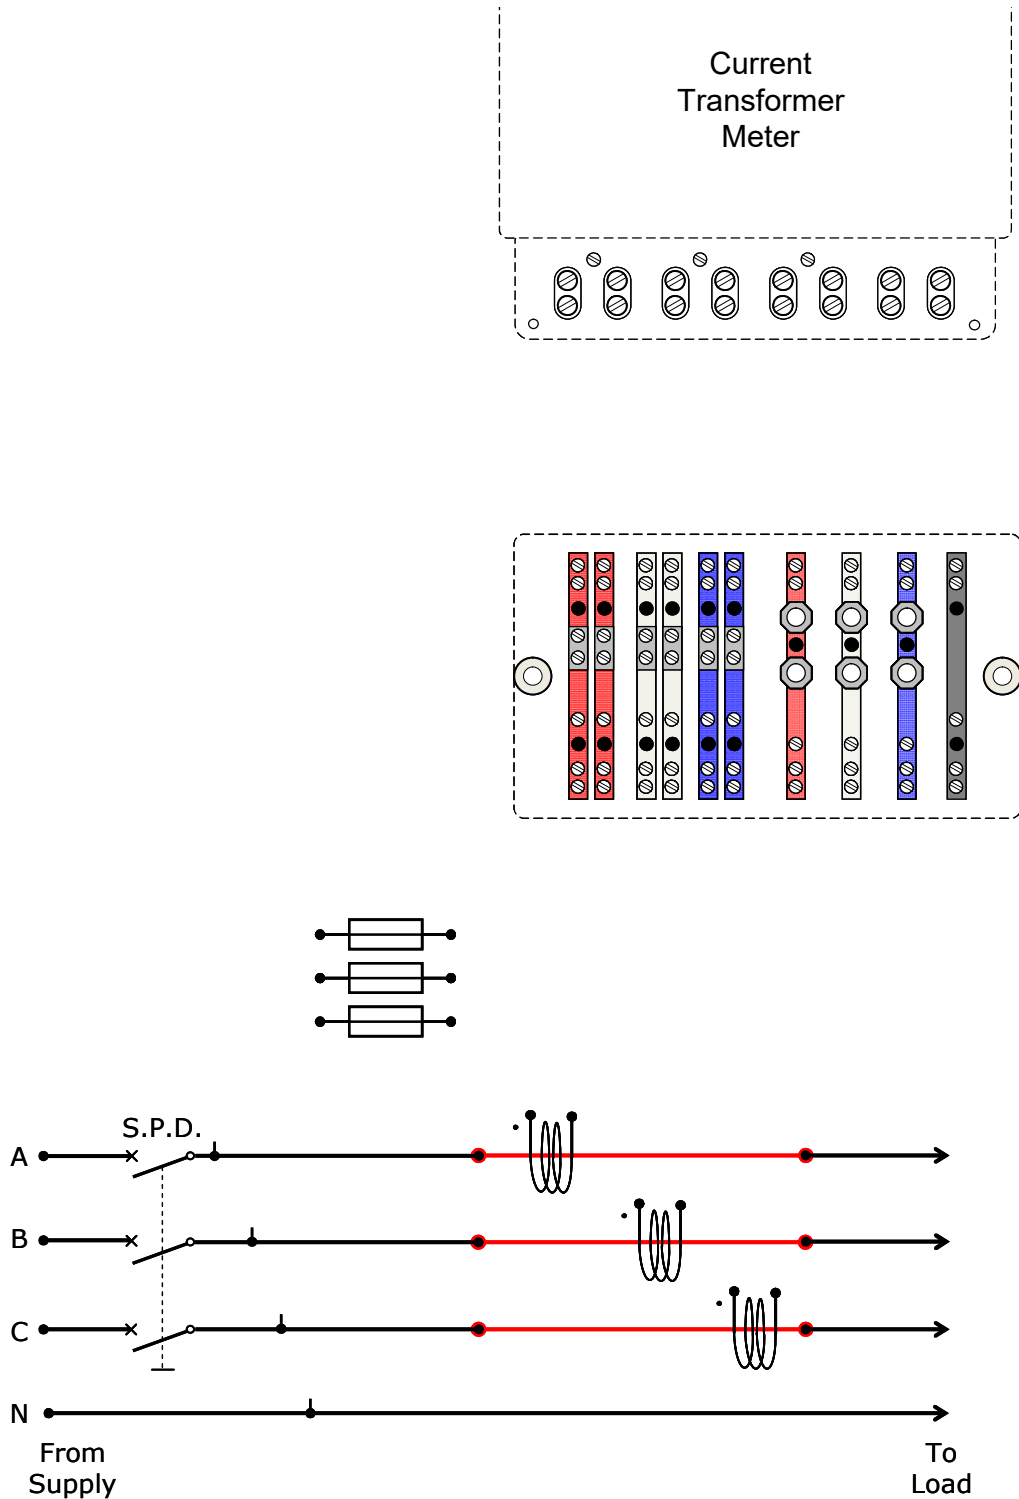

figure 8.
12. The protected consumer's mains of figure 8 are 240mm² 4 core XLPE Aluminium cables, protected by 400A H.R.C. fuses in the distribution transformer. The metering panel is located 12m from the C.T. cubical. Specify the cable size of the:
13. Draw in all the required connections for a 400A C.T. metering main switchboard shown in figure 8.